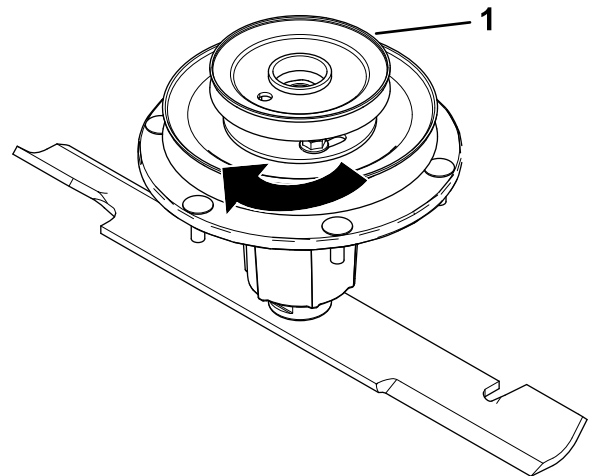

Figure 12
7. Turn the pulley to lock it into position (Figure 12).